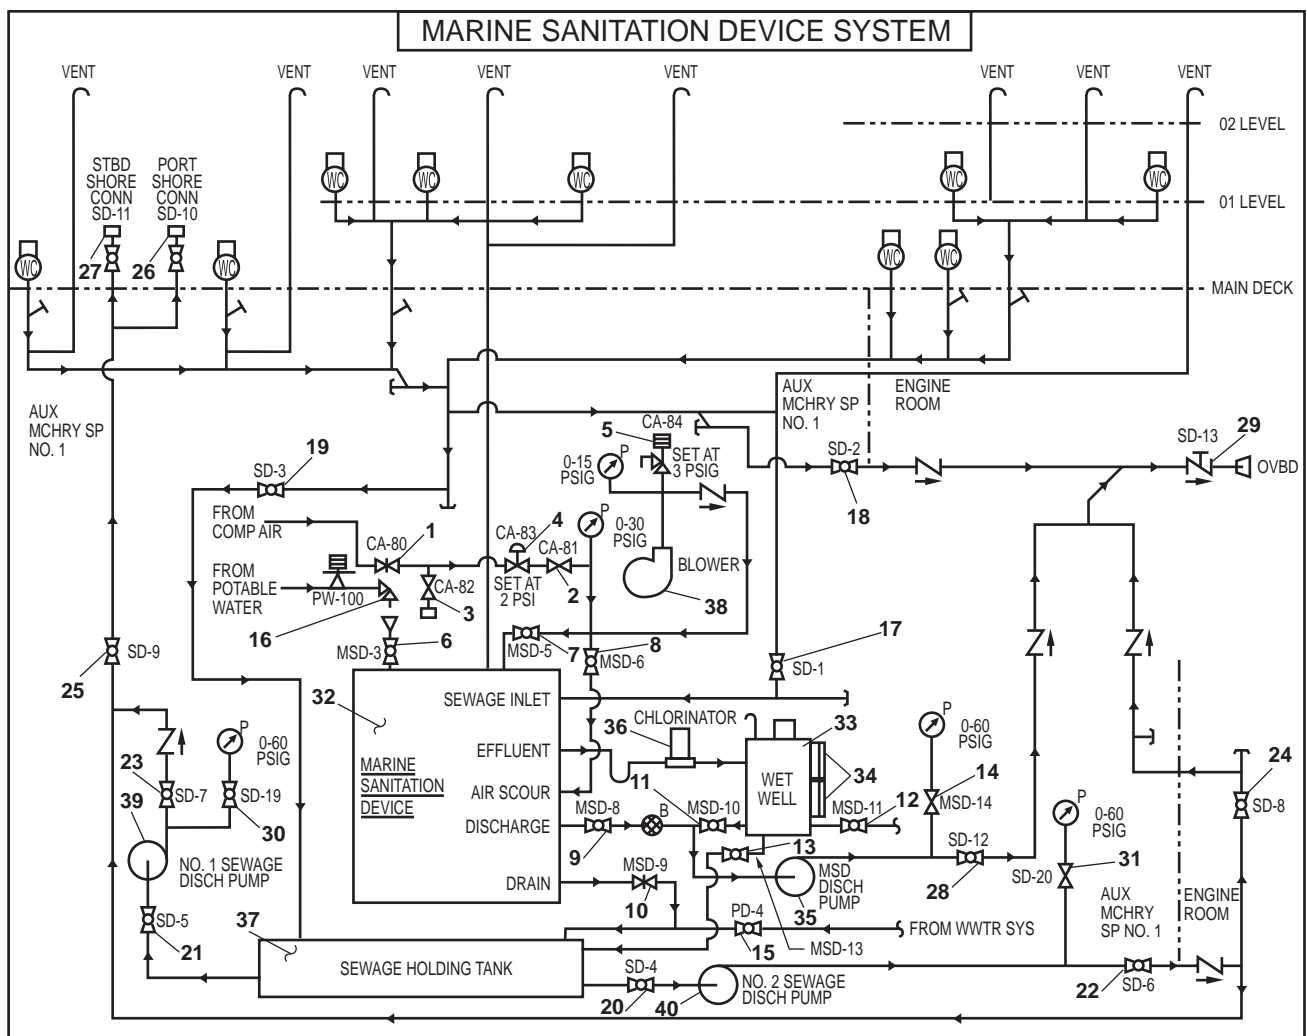

Figure 4. MSD System Schematic
6. Align the valves for the MSD as specified in figure 4 and table 1.